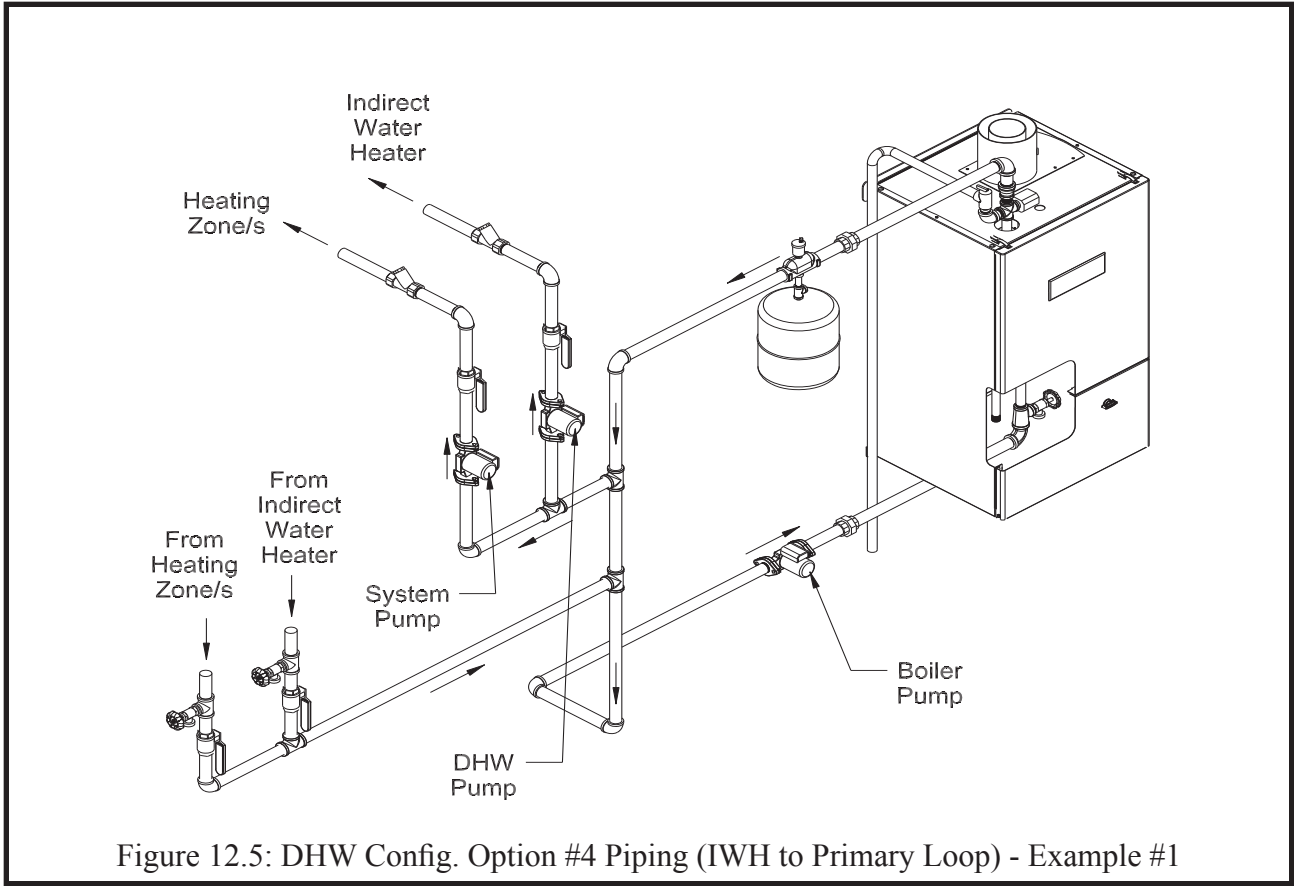
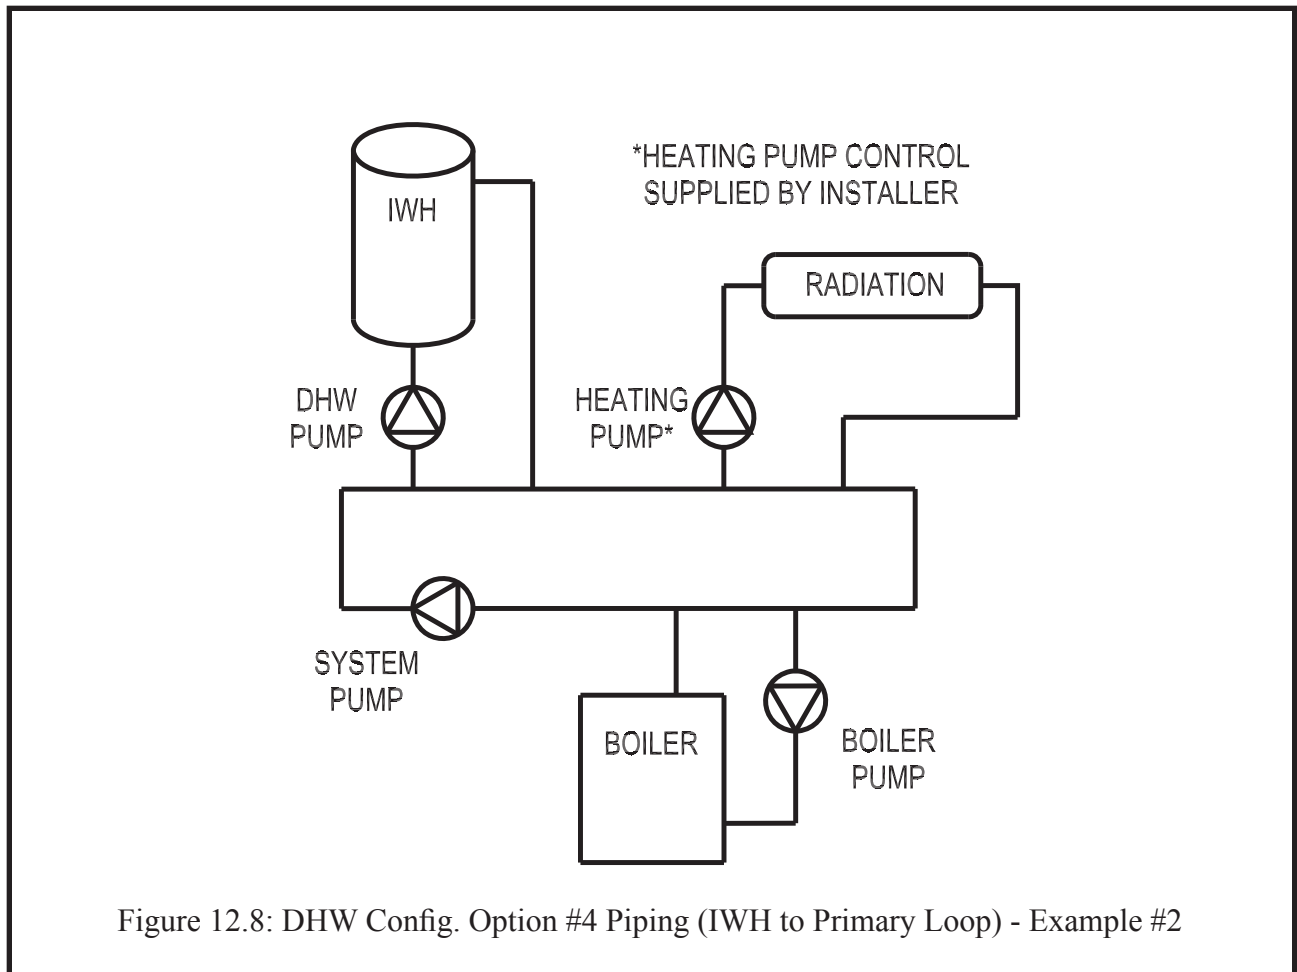

Figure 12.5: DHW Config. Option #4 Piping (IWH to Primary Loop) - Example #1
Figure 12.8: DHW Config. Option #4 Piping (IWH to Primary Loop) - Example #2
**Option #4: Indirect Water Heater Type: Storage, Zoning: DHW Circulator Pumps to Primary Loop** - Two examples of this type of system are shown in Figures 12.5 and 12.8. Note that for the system shown in Figure 12.8, the system pump must be set to run on any demand (see Step 4). When Option 4 is selected, the system operates as follows:
If it is desired to circulate water through both the indirect water heater and the heating zones when there are both CH and DHW demands, pipe the boiler and indirect water heater as shown in either figure 12.5 or 12.8 and select Option #4 above. Also refer to the next section for system pump settings. Note that the target water temperature will still change from that for DHW to CH if the simultaneous demand exceeds 60 min.
- **System Pump Runs for Any Demand** - The system pump runs during a call for either CH or DHW. This option must be selected when the indirect water heater is piped as shown in Figure 12.8.